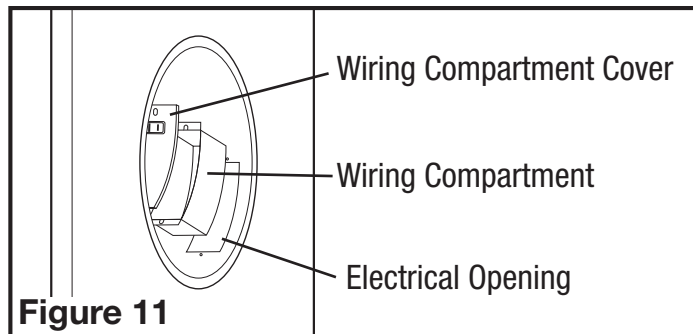

Figure 11
5. Insert the wire compartment into the electrical opening of the interior housing and line up holes of wire compartment and wire compartment cover with holes on the interior housing. Secure in place using the two included 1/2" screws (Figure 11).